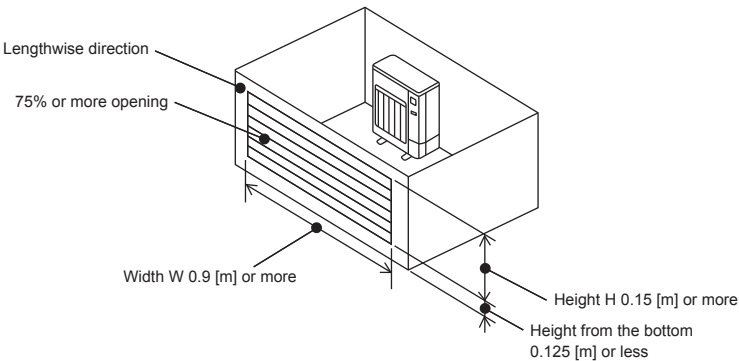

Fig. 2-18
- Install an outdoor unit to a location where the conditions in Fig. 2-18 are satisfied.